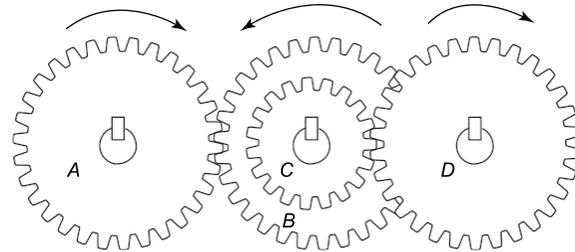

Figure 19.6
A **compound gear train** is shown in Figure 19.6, in which gear wheels  $B$  and  $C$  are fixed to the same shaft and hence  $N_B = N_C$
**Problem 8.** A compound gear train similar to that shown in Figure 19.6 consists of a driver gear *A*, having 40 teeth, engaging with gear *B*, having 160 teeth. Attached to the same shaft as *B*, gear *C* has 48 teeth and meshes with gear *D* on the output shaft, having 96 teeth. Determine (a) the movement ratio of this gear system and (b) the efficiency when the force ratio is 6.
- A compound gear train is as shown in Figure 19.6. The movement ratio is 6 and the numbers of teeth on gears *A*, *C* and *D* are 25, 100 and 60, respectively. Determine the number of teeth on gear *B* and the force ratio when the efficiency is 60%. [250, 3.6]